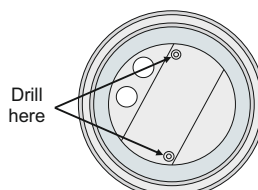

Figure 5
Step 3. Drill 2 holes on the base (Figure 5) using a 4mm drill bit in order to permit the retaining screws to pass. Mark these two drilled points on the required mounting location, drill the holes and install the supplied plastic plugs.